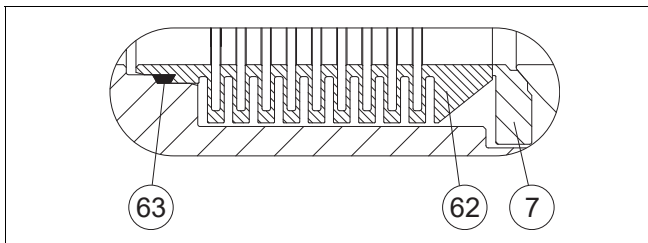

Fig. 13 F seat
- Place the back seal (63) into the bellows (62). See Figure 13.
- Place the bellows and seat (7) into the body counterbore.